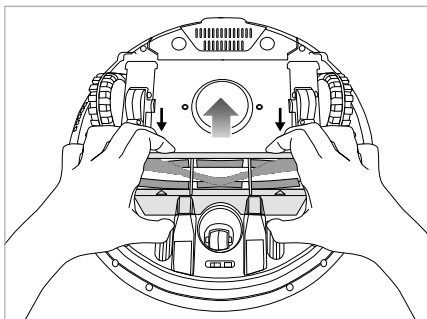

Fig. 15
- 1) Push the top side of the rotary brush cover 23 back to remove it from the appliance (see Fig. 15).